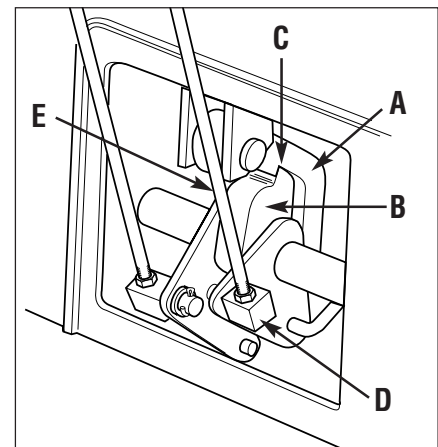

Figure 5-10: Blade Drive Control Lever adjustment.
and make sure the Operator Presence Control latches (A and B, Fig. 5-10) are fully engaged at point (C). If they are not fully engaged, improper operation or premature wear could result. To adjust, loosen hex nut (D) and shorten length of control rod (E). To avoid over-adjusting, turn rod only 1 to 2 turns per adjustment.